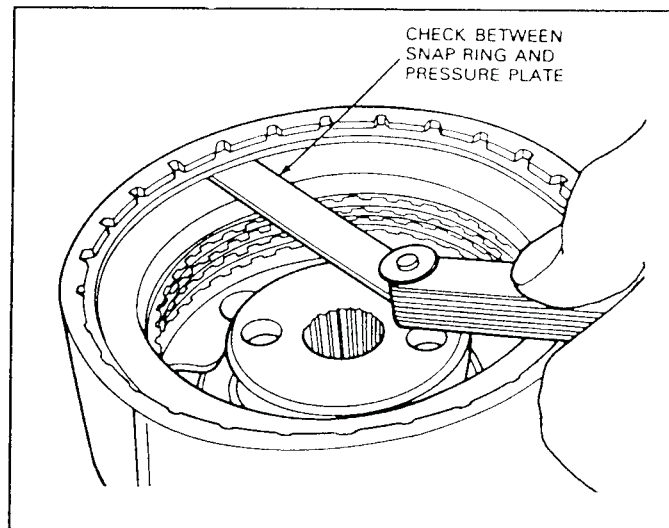

FIG. 52 Checking Forward Clutch Clearance
6. With a feeler gauge, check the clearance between the snap ring and the pressure plate (Fig. 52). Downward pressure on the plate should be maintained when making this check. Clearance should be 0.533-1.168mm (0.021-0.046 inch).